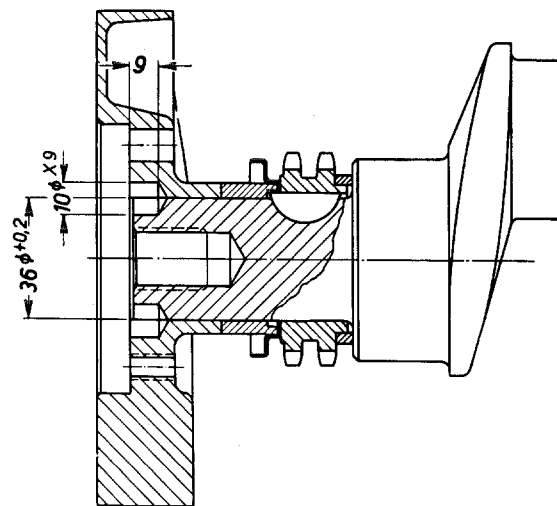

Fig. 01-4/62
Then drive in the two dowel pins. They must be seated firmly in the bores; if that is not the case, the bores must be bored and reamed to a diameter of 9.930–9.966 mm (10 ϕ X9) with a maximum depth of 9 mm; use thicker dowel pins 10 h 8 \times 8 DIN 7 (9.978–10.000 mm ϕ) (Fig. 01-4/62).
9. Assemble vibration damper. Insert the 8 pressure springs and 2 shear rubbers into flywheel and clamp uniformly by means of the two clamps 187 589 04 31 (Fig. 01-4/61).
10. Place outer contact disk (4), the compressed flywheel rings (5) and the inner contact disk (4) onto contact ring (9) of the pulley and attach by means of hexagon screws (11) to counterweight. Use spring washers with hexagon screws. Then remove the two clamps from vibration damper.